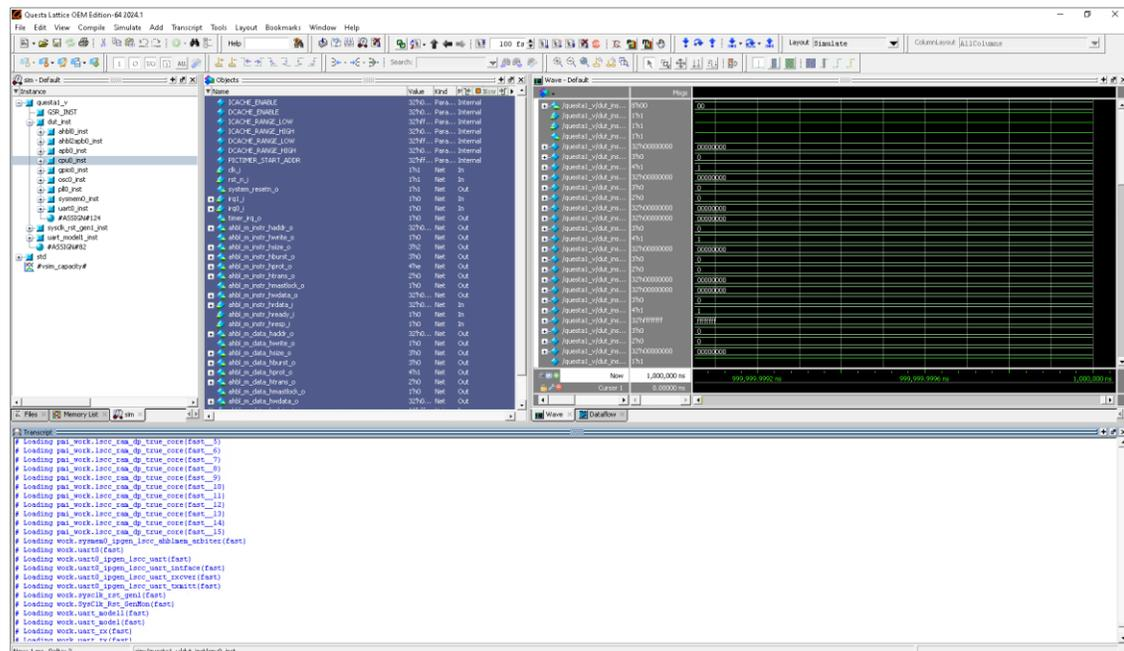

Figure 2.157. Questa Simulation GUI
3. If there is no simulation tool specified in **Tools > Options > Directories**, the default built-in simulation tool, OEM version of QuestaSim, opens (Figure 2.157). If specified, the specified simulation tool opens.